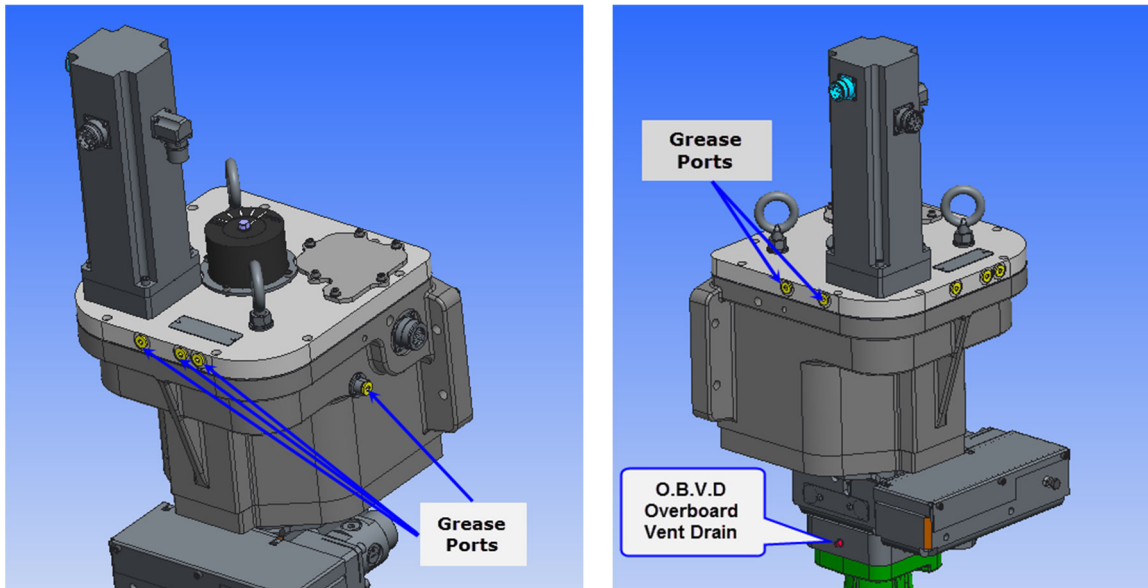

Figure 4-1. Grease Ports
2. Remove each of the 6 grease port plugs (remove only one at a time all the way through this procedure and repeat for the remaining plugs until all 6 are done) with a 3/16 inch hex wrench (Figure 4-1).
4. Attach the thread connector of the grease syringe to the threaded bearing grease port. The fitting should be fully seated (Figure 4-1).